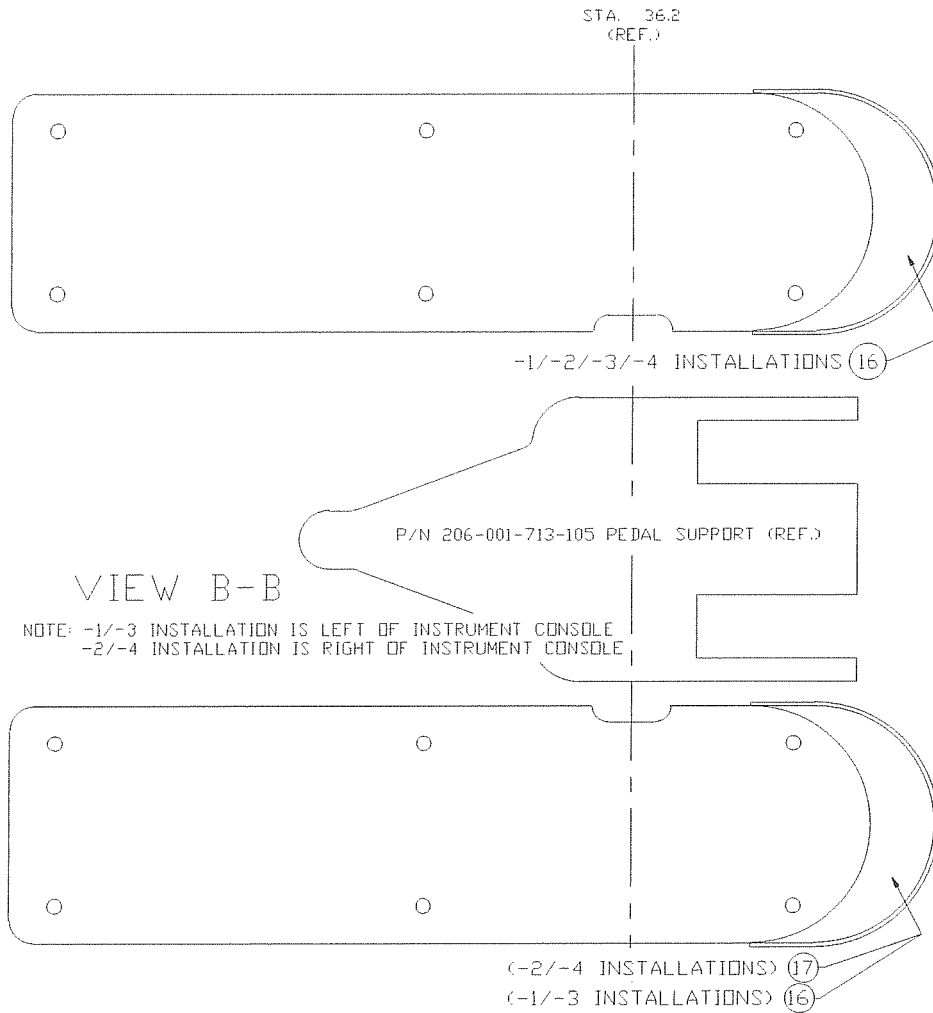

FIGURE 2: HEEL FLANGE
2.3 Refer to Figure 2, Items 16 & 17 for Inspection and Maintenance of Heel Flanges and Heel Rests. Examine Heel rests for deformation, scratches, corrosion, or fastener looseness. Replace any defective parts
- 4.6.1 Reinstall heel rests and flanges (Figure 2) using indicated hardware.
PARTS LIST FOR FIGURE 2